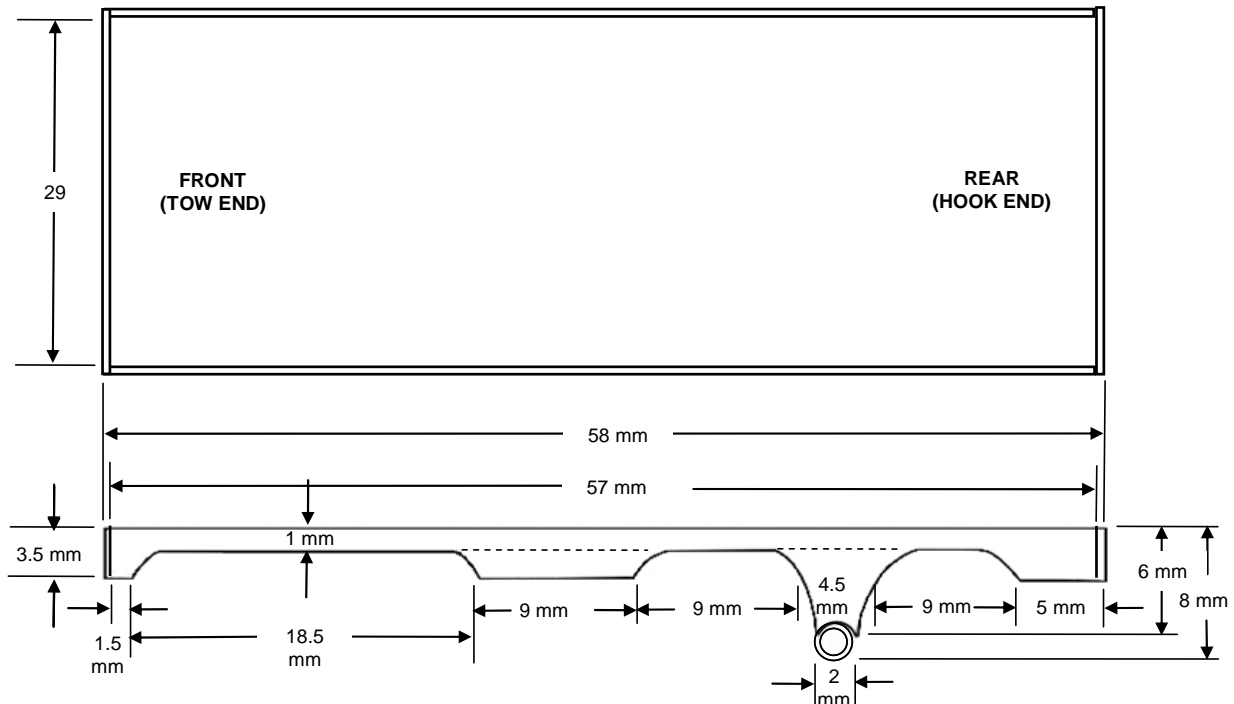

Figure 12. Transporter Deck Dimensions
Figure 12 shows the dimensions of the transporter deck. The deck consists of the transporter bed plus the side and end panels. The side panel dimensions are shown in detail - the end panels are simple rectangles. Note the designation of the front or tow end of the trailer, versus the rear or hook end.
- 3) Cut the two side panels to the shape and dimensions given in Figure 12, or use the scale image provided below in Figure 13 as a template (simply print out this page and cut out the template).